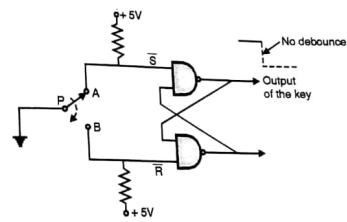

Fig. 9.1.3 : Hardware key debouncing
- It is implemented by using flip-flop or latch. Fig. 9.1.3 shows a circuit diagram of hardware key debouncing.